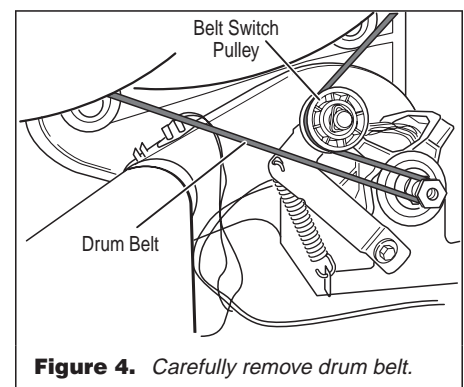

Figure 4. Carefully remove drum belt.
4. Check the belt switch and motor. Access the belt switch and motor by removing the back panel. See page 8. Carefully remove the drum belt from the spring-loaded belt switch pulley, gently letting the belt switch pulley down. See figure 4.